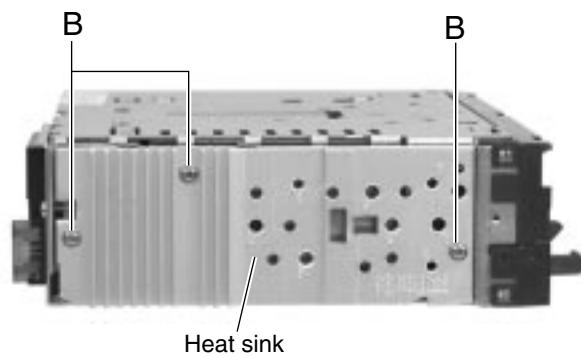

Fig.4
■ Removing the heat sink (See Fig.4)
■ Removing the head relay board (See Fig.4)